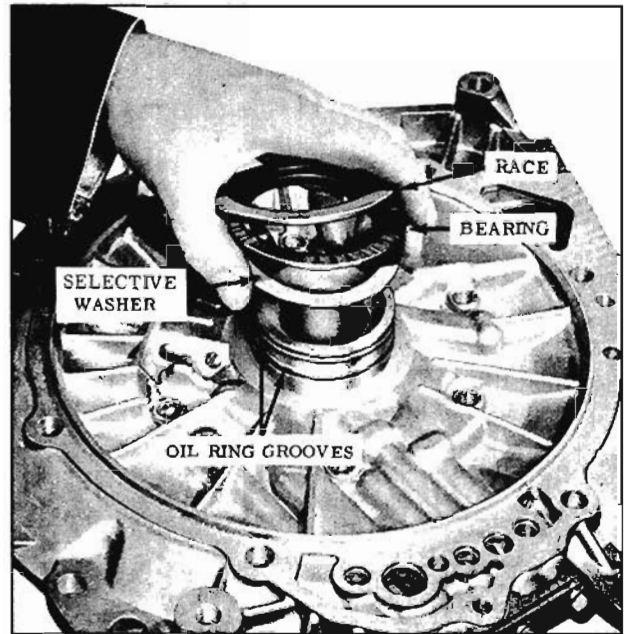

Fig. 6-52 Removing Race, Bearing and Washer
5. Remove race, thrust bearing, race and selective washer(s) from case cover. (Fig. 6-52)